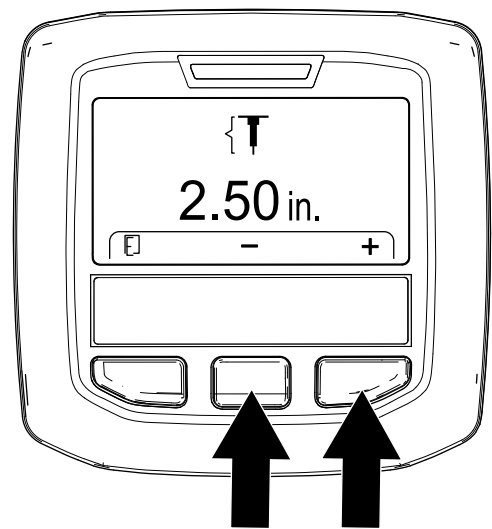

Figure 53
5. Adjust the tine depth (Figure 53) as follows: